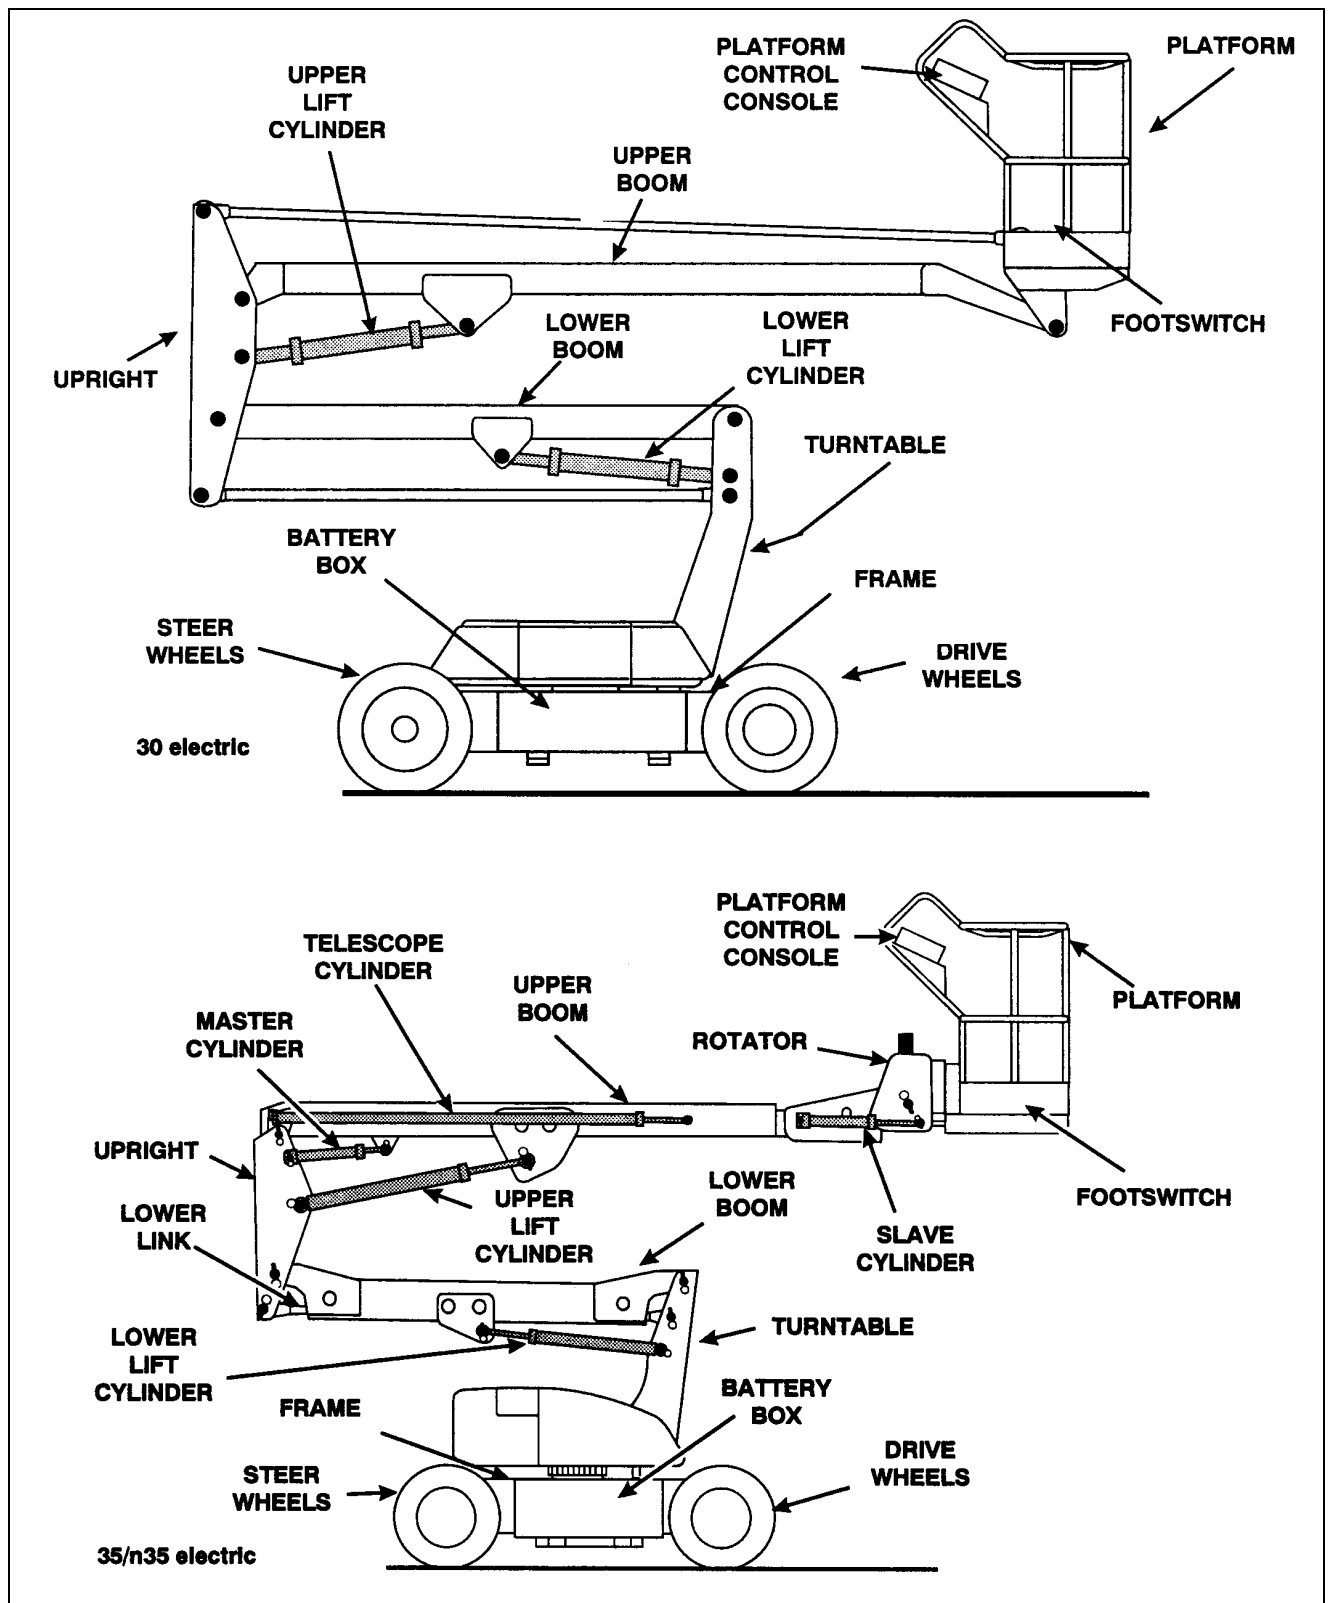

Figure 2-1. Boom Nomenclature. (30/35/n35 electric)
**30/35/n35 electric - Boom. (See Figure 2-1)**